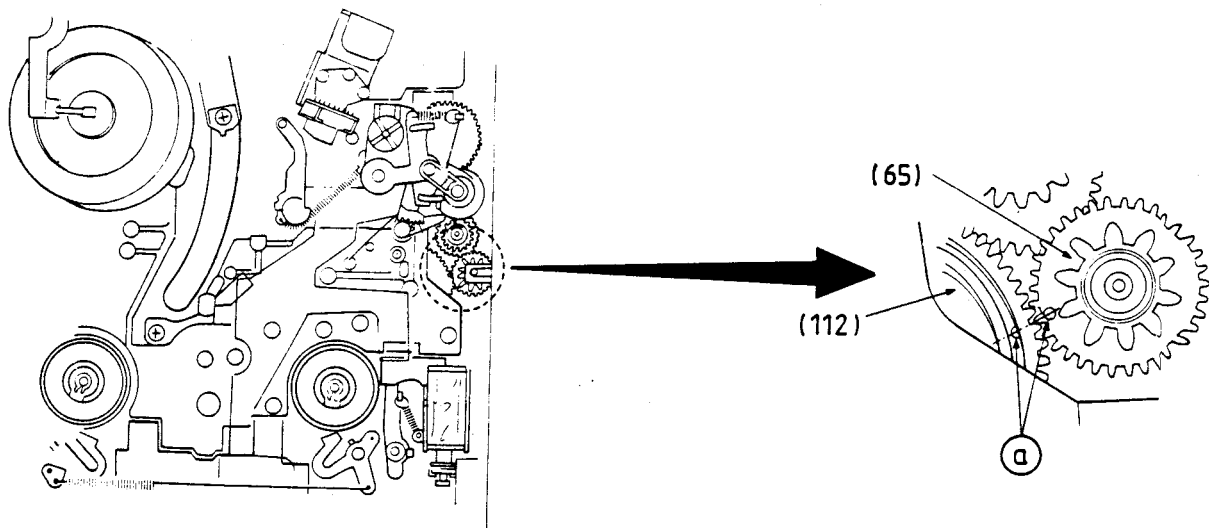

Fig. 55
9.7 Intermediate Gear (65)
- Fit the Intermediate Gear (65) as shown in Fig. 55. The marked holes (a) on the Intermediate Gear (65) and the Cam gear (112) must be aligned towards each other.
9.7 Ruota Intermedia (65)